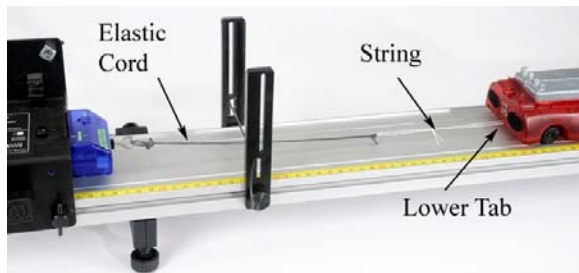

Figure 2: Fasten the Elastic Cord to the Cart
8. Tie a short loop of string to the lower tab in the PAScar as shown in Figure 2. Cut a 35 cm long piece of Elastic Cord, and tie it between the Force Sensor hook and the loop of string as shown.